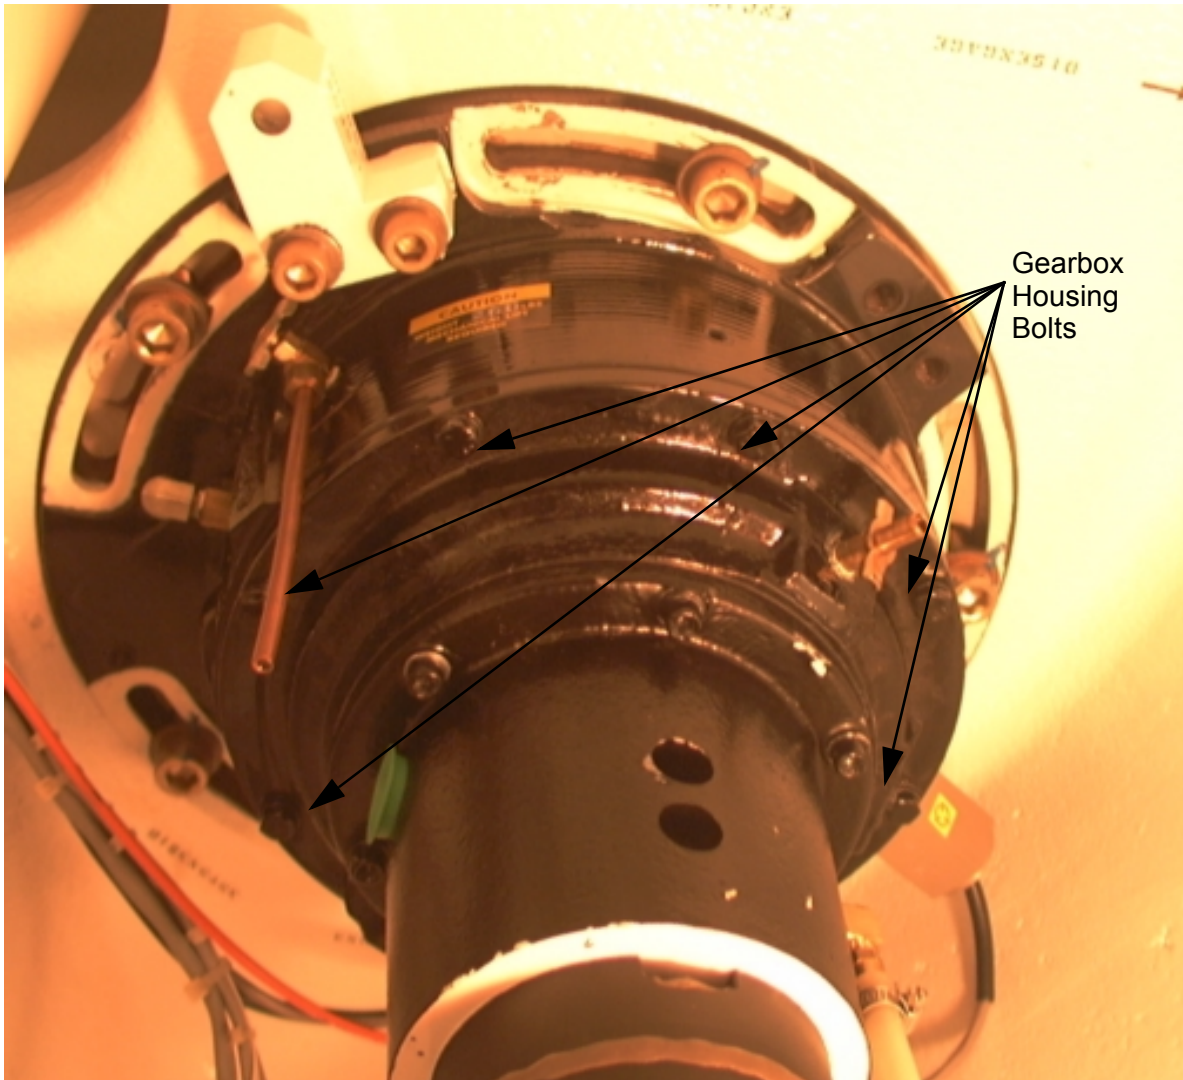

Figure 1. Gearbox Housing Bolt Assembly
- f. Visually check the Elevation Gearbox assembly for any oil leaks and if oil is present in the oil collection bottle (if applicable). If a leak is detected, or if oil is found in the collection bottle, annotate it on ATTACHMENT 2 and notify the OSF Hotline at (800) 643-3363, or (405) 366-2980, or by e-mail at Hotline@osf.noaa.gov.
- g. Retorque all eight (8) gearbox housing bolts to 14 foot-pounds or 168 inch-pounds. If any of the eight (8) bolts were loose, annotate the result on ATTACHMENT 2 and notify the OSF Hotline at (800) 643-3363, or (405) 366-2980, or by e-mail at Hotline@osf.noaa.gov. (See Figure 1.)
- l. Visually check the Azimuth Gearbox assembly for any oil leaks and if oil is present in the oil collection bottle. If a leak is detected, or if oil is found in the collection bottle, annotate it on ATTACHMENT 2 and notify the OSF Hotline at (800) 643-3363, or (405) 366-2980, or by e-mail at Hotline@osf.noaa.gov.
- m. Retorque all eight (8) gearbox housing bolts to 14 foot-pounds or 168 inch-pounds. If any of the eight (8) bolts were loose, annotate the result on ATTACHMENT 2 and notify the OSF Hotline at (800) 643-3363, or (405) 366-2980, or by e-mail at Hotline@osf.noaa.gov. (See Figure 1.)